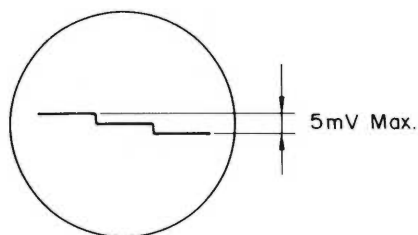

Fig. 4-6-9
- 4) As in the item 1 RMS SYM, set the deck CH 1 ($\sim$ 4) at REC/PAUSE mode using dbx IN.
- 5) Adjust the half-fixed resistor R713 ($\sim$ R743) in a way that waveform of the oscilloscope obtains the minimum voltage value (maximum; less than 5mV) as shown in Fig. 4-6-9.
- 4) Check waveform on the oscilloscope is less than 5mV (Refer to Fig. 4-6-9).